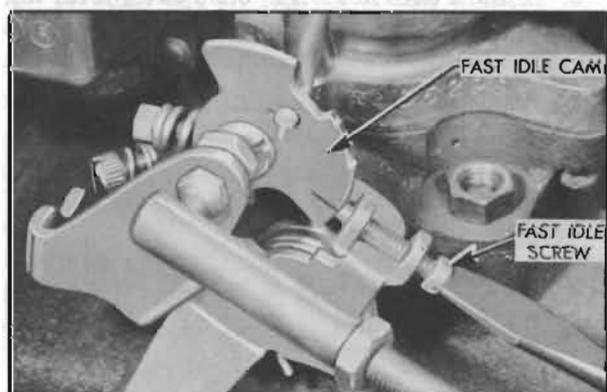

Figure 3-29—Adjusting Fast Idle Speed (on Engine)
6. With carburetor on engine, rotate fast idle cam so that fast idle screw contacts high step of cam. Then turn fast idle screw to obtain engine speed of 1500 R.P.M. with engine at normal operating temperature. See figure 3-29.